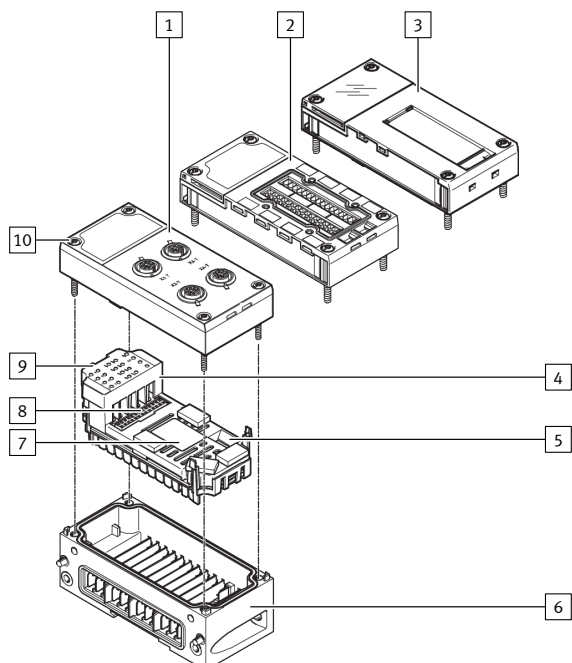

Fig. 1: Design of the input module CPX-F8DE-P
For disassembly → Fig. 1:
- Make sure that the interlinking block (→ Fig. 1, [6]) is clean and free from foreign matter, especially in the area of the contact rails.